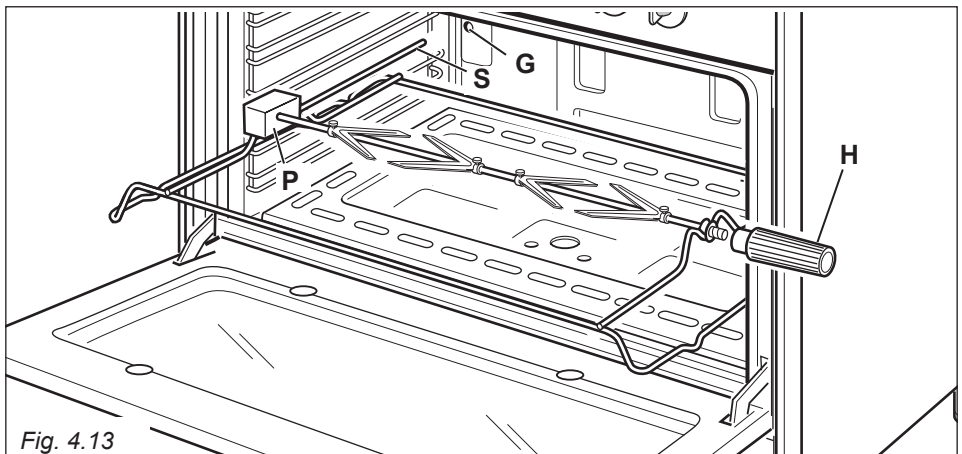

Fig. 4.13
- Insert the rod into the side gear opening “P” (fig. 4.13)